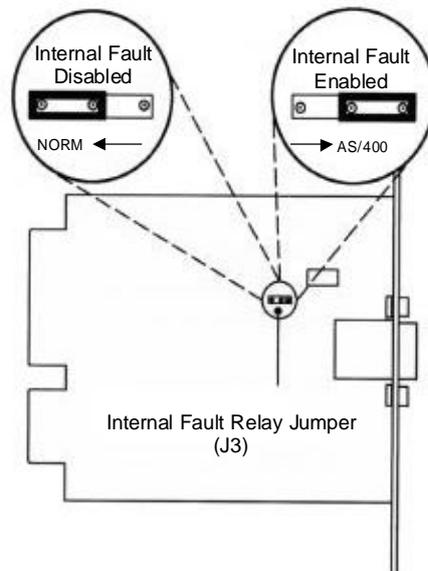

Figure 20 Internal Fault Relay Jumper
3. Move the J3 jumper to the AS/400 position to enable the Internal Fault relay as shown in Figure 20.